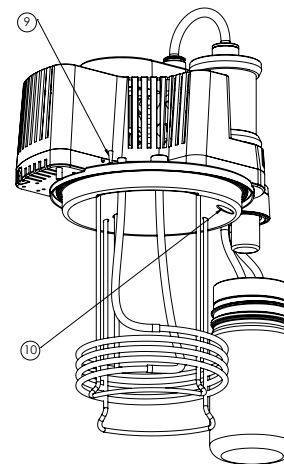

Figure 2
5. Ensure that the Vacuum Plug is fully inserted at point 9 in *Figure 2*.
6. Lift the PicoStill slightly out of the keg, plug point 10 in *Figure 2*, and check for a pressure drop.